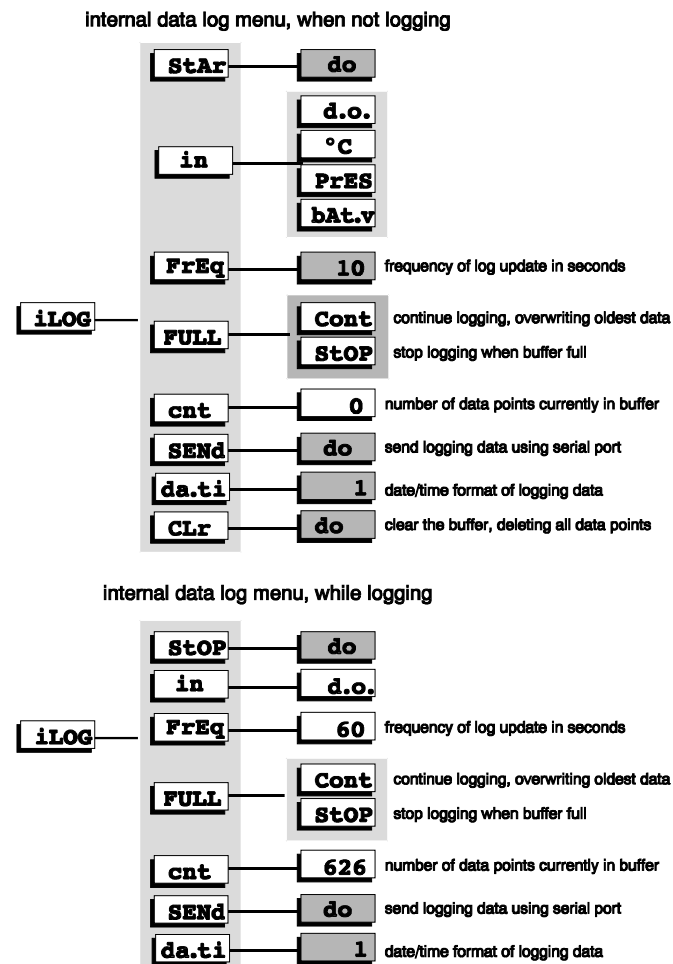

Figure 24 Internal data log menu
3. When you are ready to start logging, select [iLOG] [StAr] from the menu. Press Enter when the flashing [do] is displayed. The analyzer will briefly display [donE] to indicate that it has completed the desired action (starting the data log). At this point the logging menu will change somewhat, to indicate the options available while logging is in progress. Refer to figure 24.